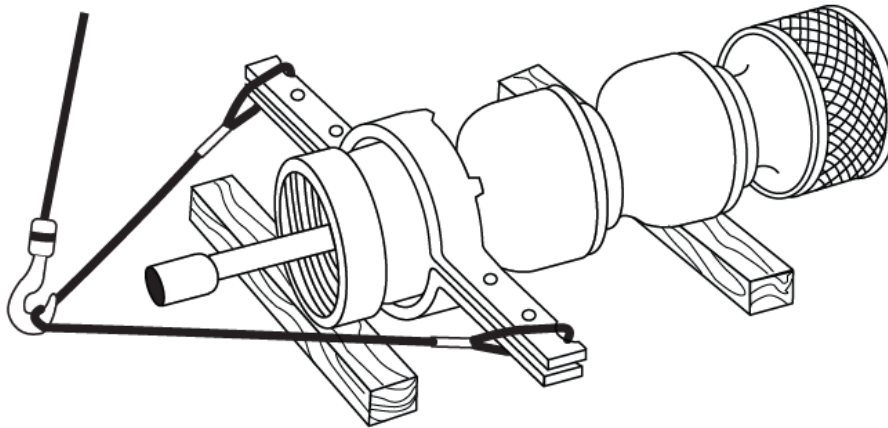

FIGURE 10 – Attaching Lifting Sling (Short Set)
3. Install a friction clamp to the upper end of the bowl assembly beneath a convenient shoulder. Attach a cable sling to the friction clamp far enough out on the ears to allow removal of the sling after the friction clamp is resting on the setting beams. Also, make sure that the sling is long enough for the load hook to clear the shaft when the bowl assembly is up righted. See Figures 10 and 11. Care must be taken to prevent the cable from wrapping around the shaft to prevent the bending of shaft or oil tubing.